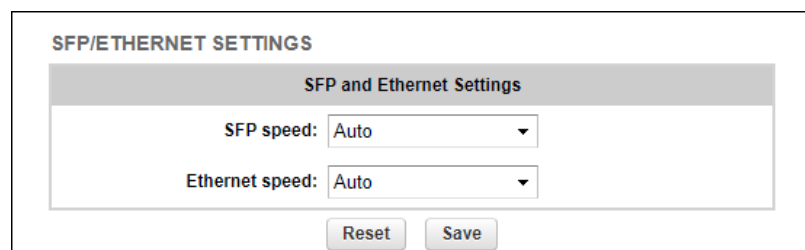

Figure 35. Configurator GUI (SFP/ETHERNET SETTINGS dialog)
- The **SFP/ETHERNET SETTINGS** dialog will be shown (Figure 35 \(page 109\)).